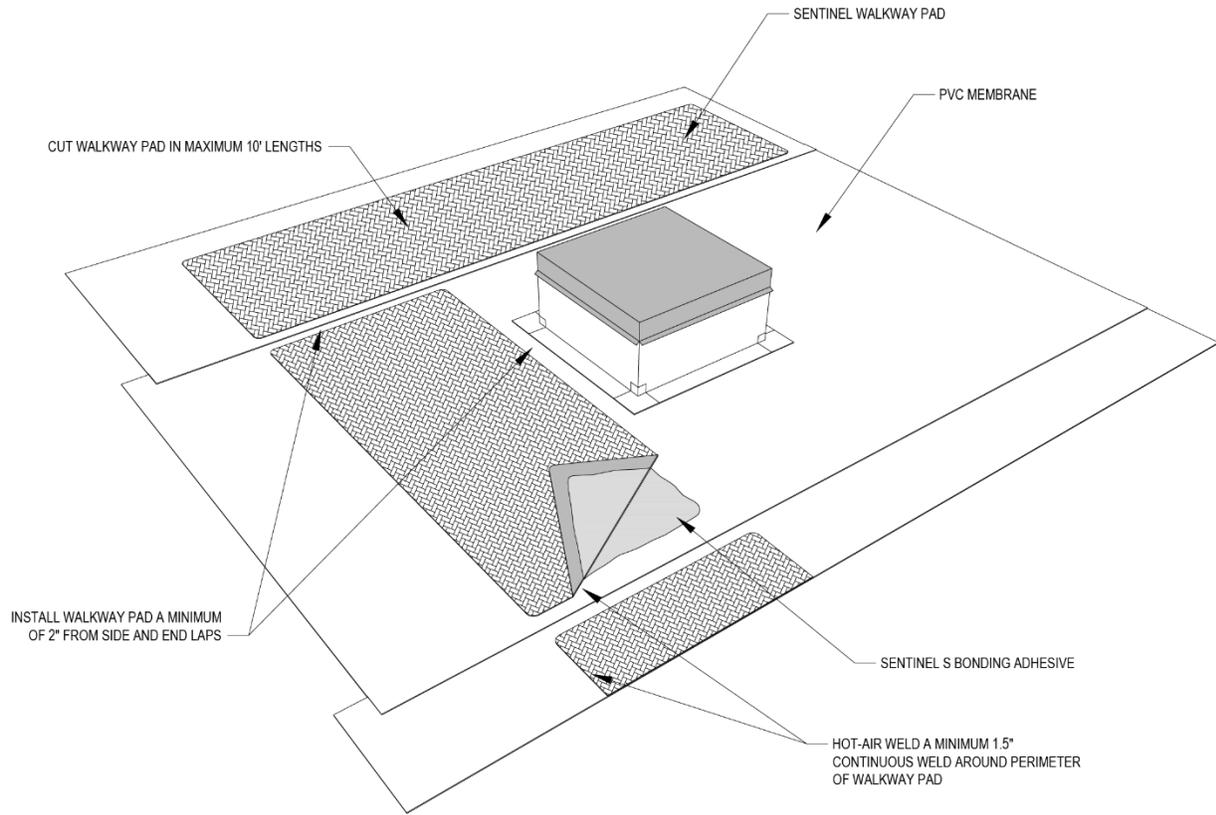

Figure 4.3a Walkways
- Other bare PVC membranes may also be used in lieu of SENTINEL® WALKWAY PAD. Refer to Figures 4.3a through 4.3b.
- Walkways and protection pads should be placed a minimum of 2 in from membrane side laps, end laps, and flashing membranes. Refer to Figure 4.3a.